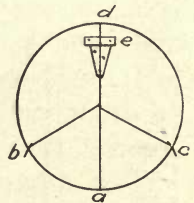

FIG. 87.—POINTS AT WHICH HINGES ARE ATTACHED.
6. Laying off and boring screw holes for the hinges. — There are three legs to be fastened to the tripod head. In order to locate them equidistant it will be necessary to divide the circle into three equal parts. Draw a diameter through the center of the circle and with one leg of the compass at point *a*, scribe points *c* and *b*. The distance between the legs of the compass must be equal to the radius of the circle. These two points with *d* divide the circle into three equal parts. (See Fig. 87.) From points *c* and *b* draw lines to the center; on these lines locate the three hinges by placing the center